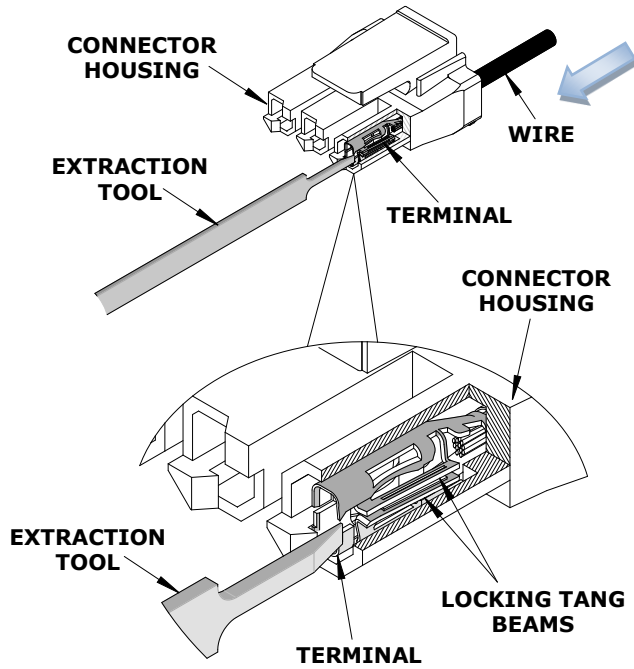

Figure 9
2. Push the terminal forward in the arrow direction before using the extraction tool as shown in Figure 9. Insert the extraction tool into the slot on the side of the connector housing.